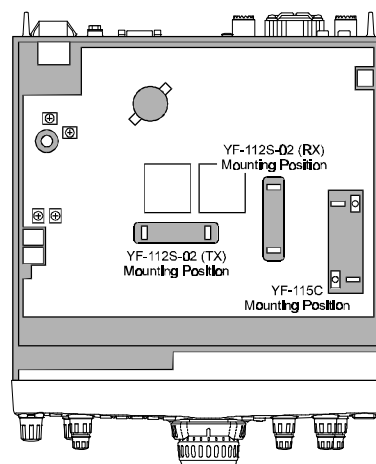

Figure 2
- ② Refer to Figure 2, and locate the mounting positions for the CW (YF-115C) and/or SSB (YF-112S-02) filters on the MAIN Unit.
- ③ Push the optional filter board(s) onto the pins corresponding to the assigned mounting location on the radio. Gently press the board(s) down until the pins are firmly seated in the connectors.
- ④ Replace the bottom case of the transceiver.
- ⑤ Turn the transceiver on, and enter the Menu mode. Per the details on page 88, change the setting of Menu #33 to "ON" if installing the YF-115C CW filter.